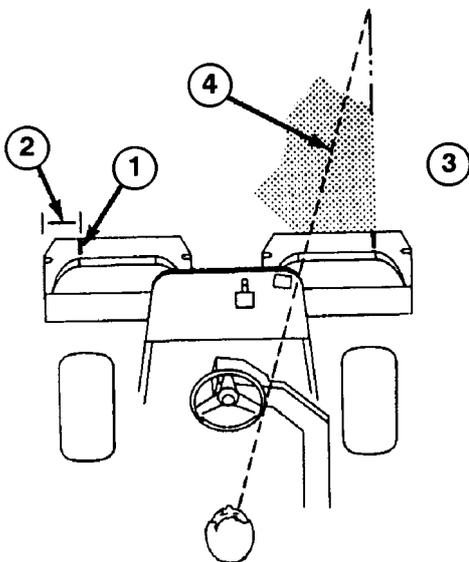

Figure 12
2. Either place a strip of white tape or paint a line onto each basket paralleling the outer edge of each basket (Fig. 12)